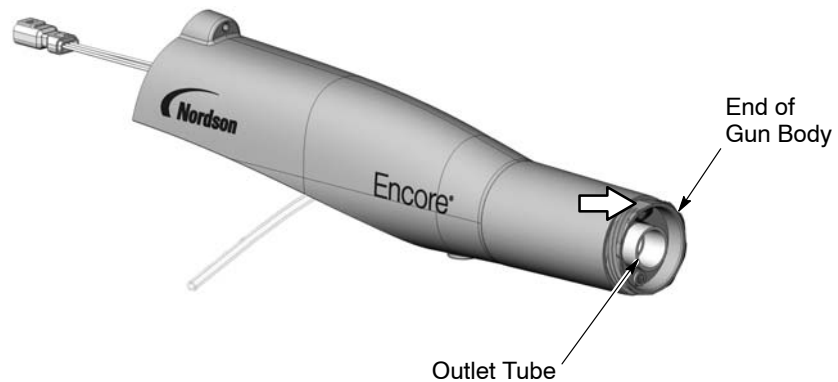

Figure 5 Positioning the Outlet Tube Prior to Installing the Gun Body on the Handle
7. Hook the top of the ground pad (14) to the handle, then rotate the ground pad onto the handle. Make sure the cable wires are not pinched or trapped.
8. Push the handle base onto the handle and ground pad. Secure the base to the handle with the two M3 x 20 screws (12).
9. Install the elbow (11) onto the inlet tube.
11. See Figure 5. Push the outlet tube forward so that the front end of the tube is flush with the front end of the gun body.